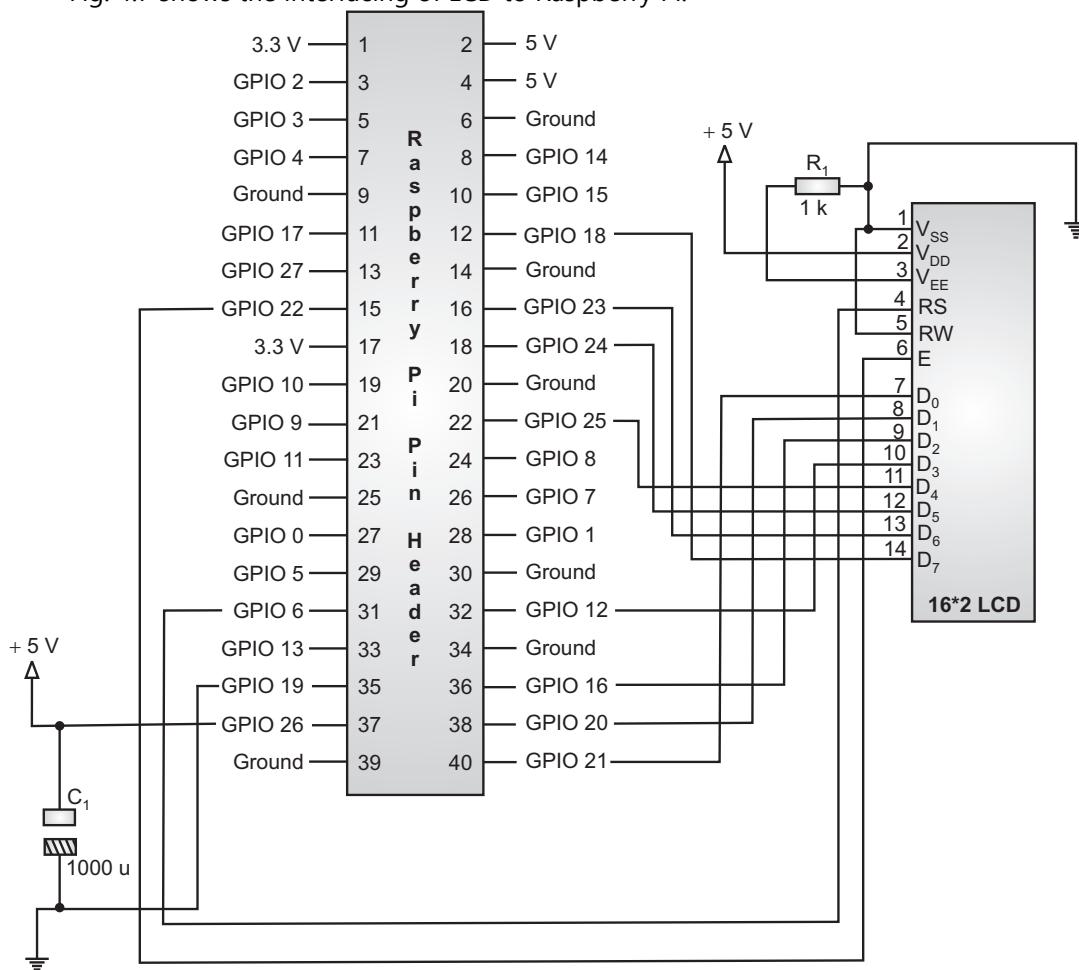

Fig. 4.7: Interfacing LCD to Raspberry Pi
- Fig. 4.7 shows the interfacing of LCD to Raspberry Pi.
- As shown in above Fig. 4.7, LCD is interfaced to 10 GPIO pins of Raspberry Pi.